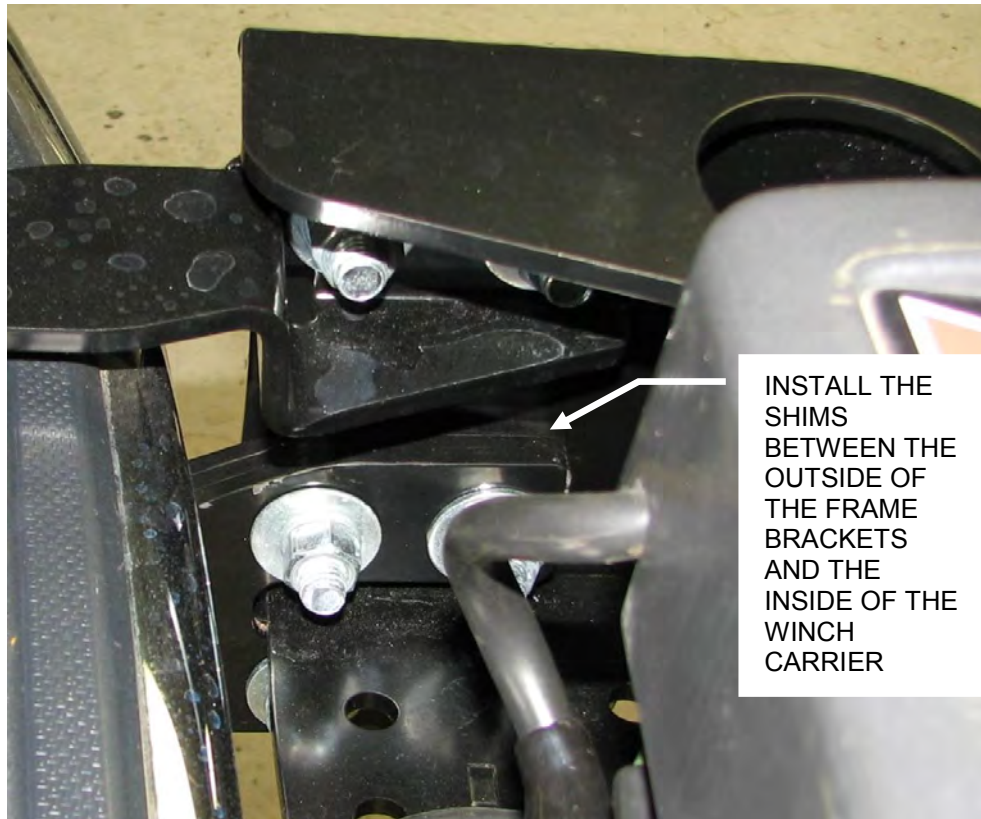

Figure 8: Winch Carrier and Shims
8. **Large Frame carrier only.** Install the upper frame brackets. Use **Figure 8 and 9** to determine the location of the left and right upper frame brackets. Install the upper frame bracket to the main frame bracket using the 7/16" x 1-1/2" bolts. Install a bolt and washer through each of the 2 holes in the upper frame bracket and through the main frame bracket. Install a 7/16" washer, lock washer and nut onto each bolt. Determine how many shims are needed to take up the gap between the mounting holes on the upper frame bracket and the inside of the winch carrier. Install the required shims between the bracket and winch carrier and then install the round head bolts for a black carrier or the stainless button head bolts for a stainless carrier through the winch carrier, shims and upper frame bracket. Install a 7/16" washer, lock washer and nut onto each of the 2 bolts. Repeat this for the opposite side of the winch carrier and torque all of the bolts.